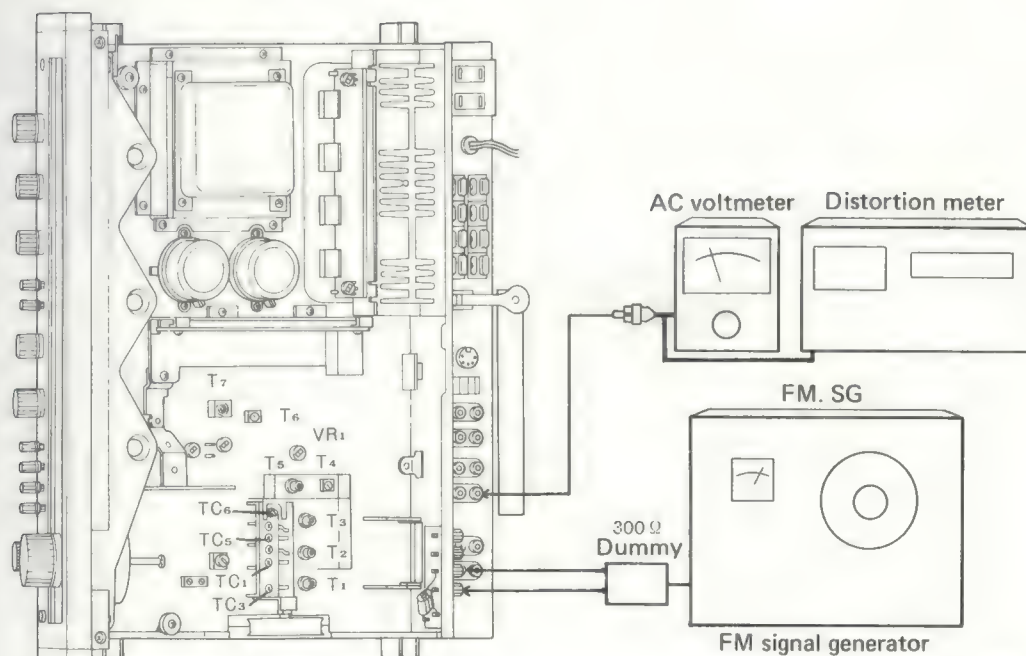

Fig. 15
This protection circuit functions to protect the speakers and the power amplifiers from damage due to short-circuit of the load, etc., and performs a muting operation to cut noise and distortion which occur when switching the power on and off. The circuit is shown in Fig. 15, and consists of a bridge type over-current and overload detector, a differential amplifier DC voltage detector, and a power switch ON/OFF detector section.
1. Connect measuring equipment as shown in Fig. 15.